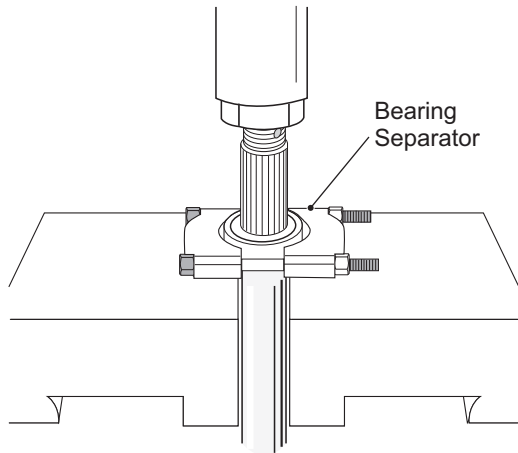

Fig. 5 Press Bearing from Shaft
3. Remove the bearing by supporting the inner race of the bearing on an arbor press bed and applying pressure to the threaded end of the axle shaft (Ref Fig. 5).